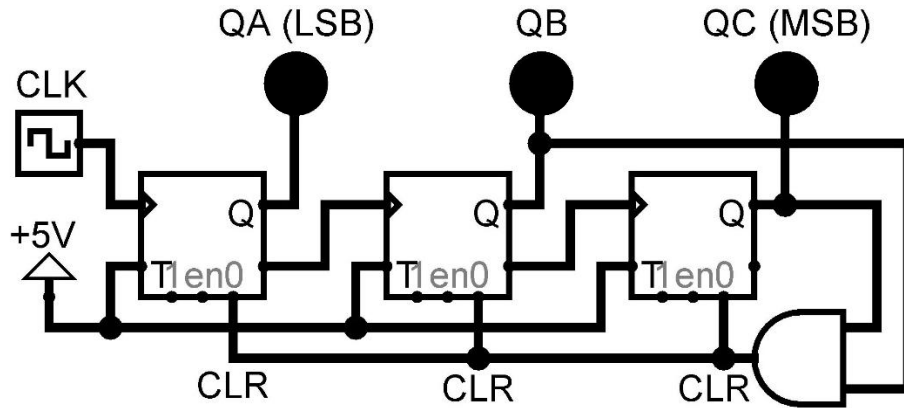

Figure 2(a)
- (a) Figure 2(a) shows the logic circuit diagram of an asynchronous counter, which uses positive edge-triggered T flip-flops with labelling of  $Q_A Q_B Q_C$  where  $Q_C$  is MSB and  $Q_A$  is LSB.
- (i) Verify the counter operation whether the logic circuit of Figure 2(a) is working as an up counter or down counter. Also, state the modulus and function of this counter. (5 marks)
- (ii) Show the outputs,  $Q_A$ ,  $Q_B$ ,  $Q_C$  timing diagrams of Figure 2(a) with proper labelling for this counter. (5 marks)
Input Z will be used as the up/down control. The counter will count from  $0 \Rightarrow 1 \Rightarrow 3 \Rightarrow 2 \Rightarrow 6 \Rightarrow 7 \Rightarrow 5 \Rightarrow 4 \Rightarrow 0$  when input,  $Z = 0$  and  $0 \Rightarrow 4 \Rightarrow 5 \Rightarrow 7 \Rightarrow 6 \Rightarrow 2 \Rightarrow 3 \Rightarrow 1 \Rightarrow 0$  when input,  $Z = 1$  as shown below in Figure 2(c). Flip-flop  $D_A$  has output  $Q_A$ , flip-flop  $J_B K_B$  has output  $Q_B$  and flip-flop  $S_C R_C$  has output  $Q_C$ . Provide proper labelling for the designed logic circuit. Show all workings clearly. Use the flip-flop excitation tables provide in Table 2(b).